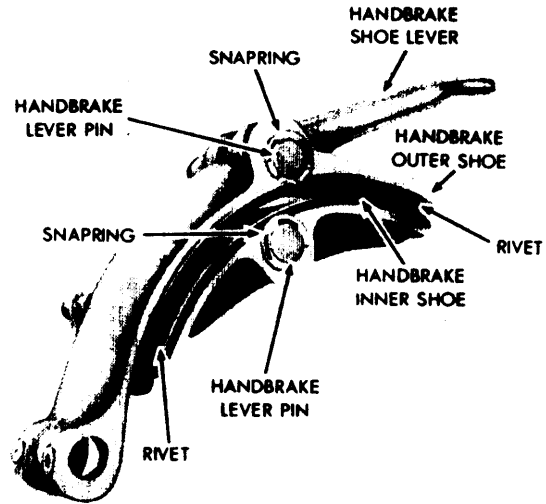

Figure 4-21. Disassembly of Handbrake Shoe Assembly.
- (1) Remove the two snaprings holding the handbrake lever pins in position. (See fig. 4-21.)
- (2) Remove the two slotted washers holding the stabilizer spring in position and remove the brake stabilizer spring and pin.
- (3) Remove the handbrake shoe lever and lever pins. (See fig. 4-21.)
- (4) If replacement is necessary, remove the sixteen (16) rivets securing the lining to the inner and outer brakeshoes of the handbrake assembly. (See fig. 4-21.)
- a. Hand brake (fig. 4-21).